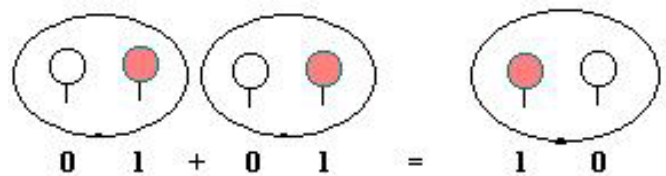

Figure 2
2. Design a 2-bit full adder with 3 x 8 decoders in Electronics Workbench. It must work similar like in Figure 2. Test your design with $01+01=10$. (Hint: you will use 74138, 4012. Please read “help” about these ICs.)